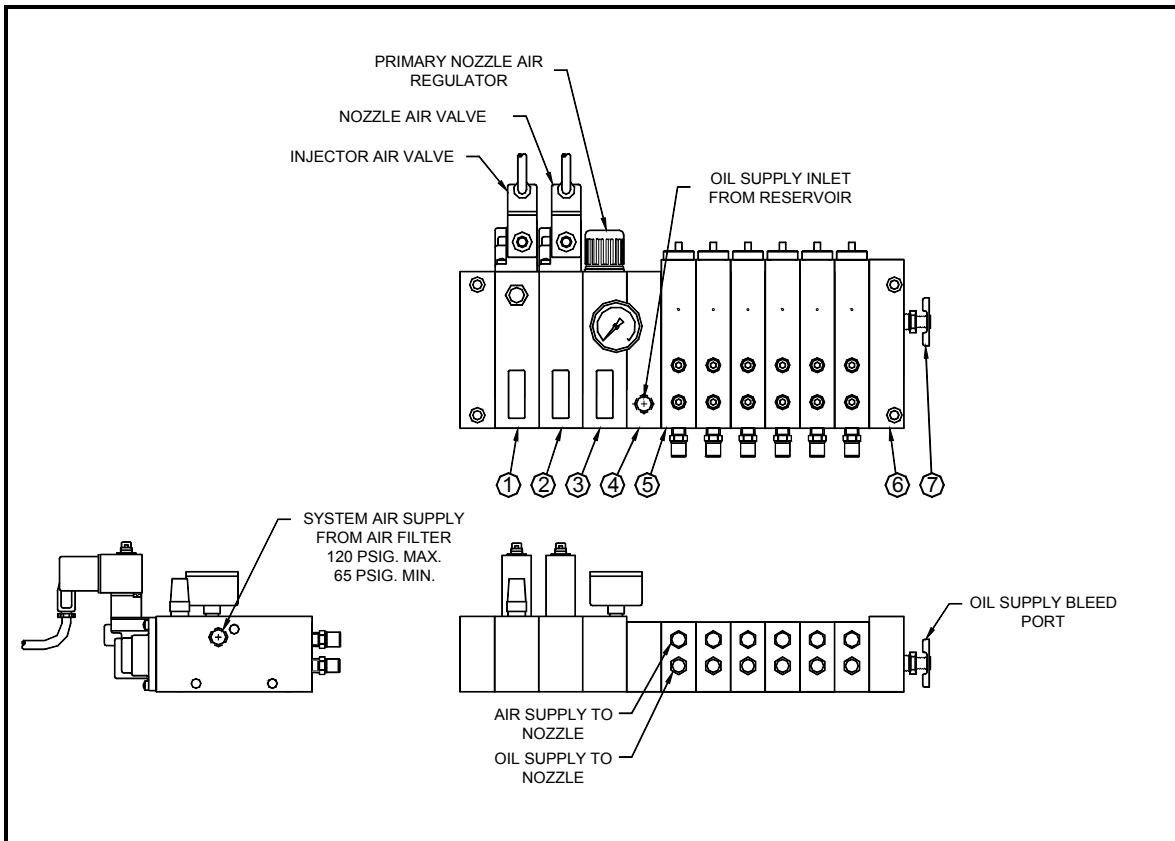

Fig. 5: VS Assembly with Six Injectors
3. **VS Assembly (Ref. Fig. 5):** This is the core of the Series 170 lubrication system. The manifolded VS Assembly is a self-contained modular unit that incorporates valves to control the injector air supply as well as regulated air supply for the nozzle. The VS assembly can accommodate a maximum of 8 injectors per assembly.
- a. **Injector solenoid valve:** (1) This is the first valve in the stack and its' sole purpose is to supply a pulsed air signal to the injector.
- b. **Nozzle air solenoid valve:** (2) This is the next valve in the stack and it is responsible for supplying main air pressure to the neighboring component, the regulator.
- c. **Regulator block:** (3), This accepts main air pressure from the nozzle air solenoid valve and regulates the pressure down to an acceptable level for the nozzle assemblies. The outlet of the Regulator block is ported through all following components.
- d. **Oil Feed block:** (4), This receives oil from the reservoir and feeds all following injectors.
- e. **Injector block:** (5), This consists of a positive displacement injector. The pulsed air signal (from the Injector solenoid valve) drives a piston pin assembly forward into a metering chamber. The piston pin assembly pressurizes the oil, overcoming an integral outlet check valve assembly and oil is dispensed (Ref. Injector Operation section for more information). The Injector block is also ported for the regulated nozzle air supply.
- f. **Manifold end plate:** (6), This contains the bleed petcock (7), and auxiliary ports to run both the injector air signal and nozzle air supply to another injector manifold assembly.